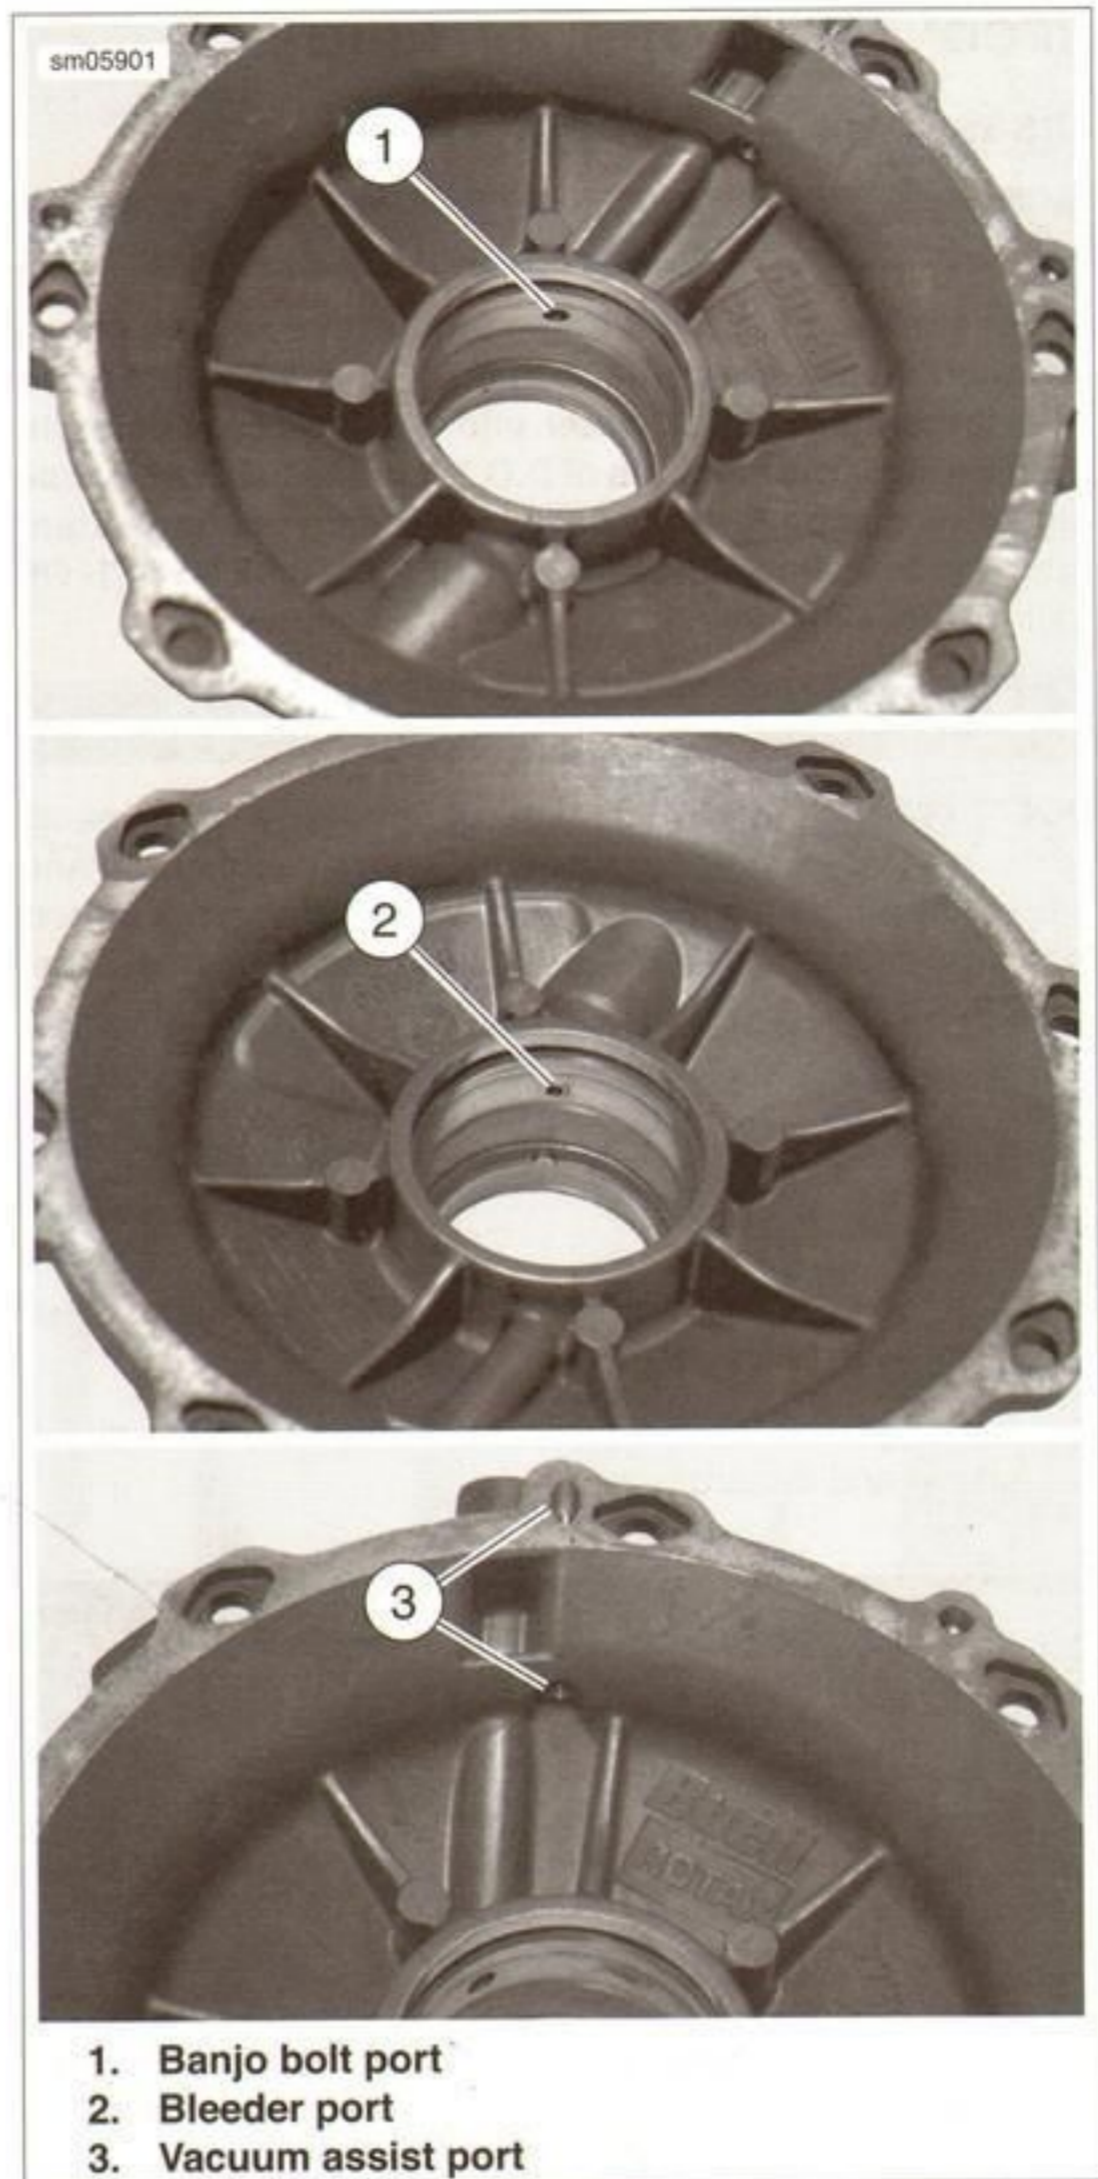

Figure 6-24. Secondary Actuator Cover Ports
3. See Figure 6-24. Inspect secondary actuator cover banjo bolt port (1), bleeder port (2) and vacuum assist port (3) for obstruction. Clean ports using compressed air.